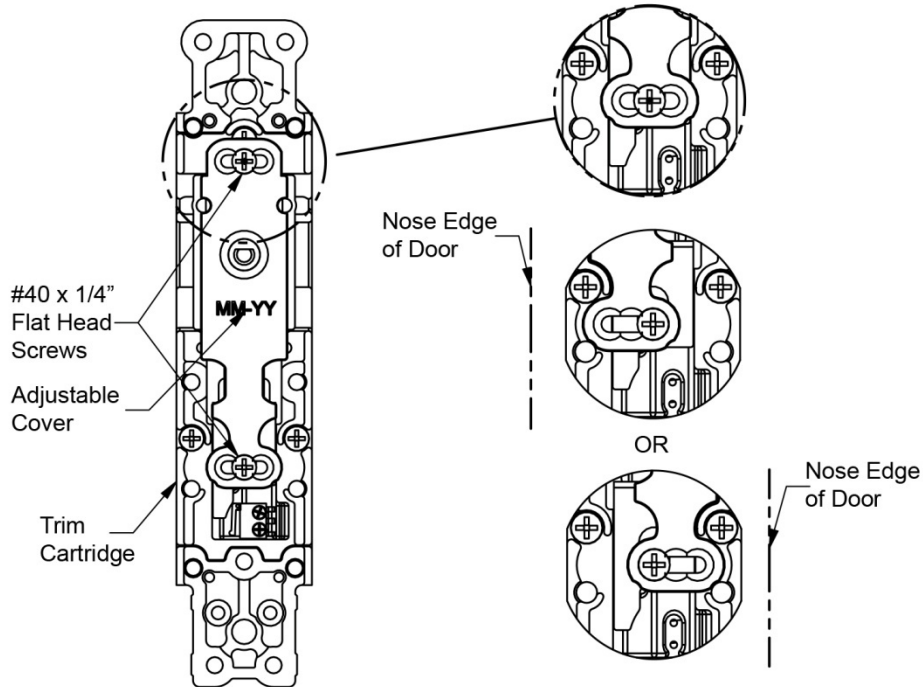

Figure 3. Adjustable Cover and Trim Cartridge
1. LOOSEN the two #4-40 x 1/4" flat head screws securing the adjustable cover on the back of the trim cartridge until the cover can be slid (see Figure 3, "Adjustable Cover and Trim Cartridge").
2. PUSH the adjustable cover toward the nose edge of the door until it stops (see Figure 3).